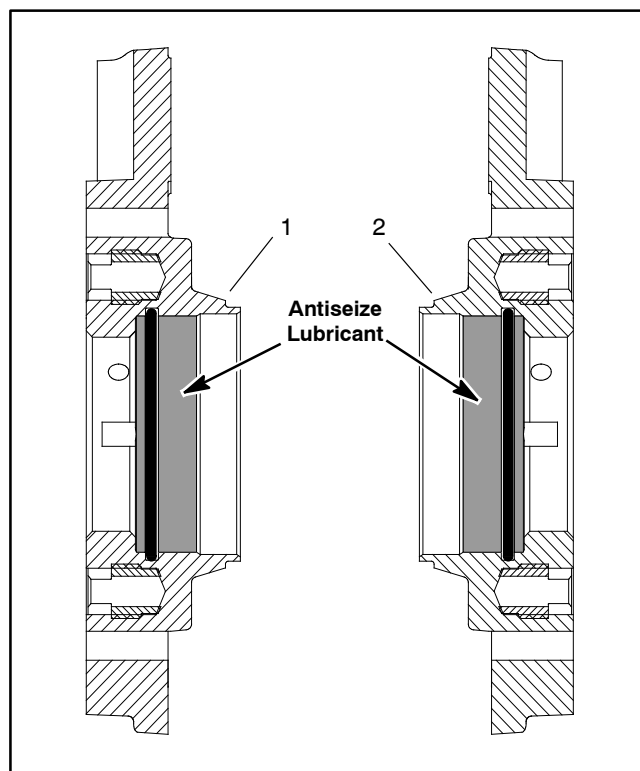

Figure 39
4. Apply a thin coat of antiseize lubricant to the reel bearing bore of each side plate (Fig. 39).